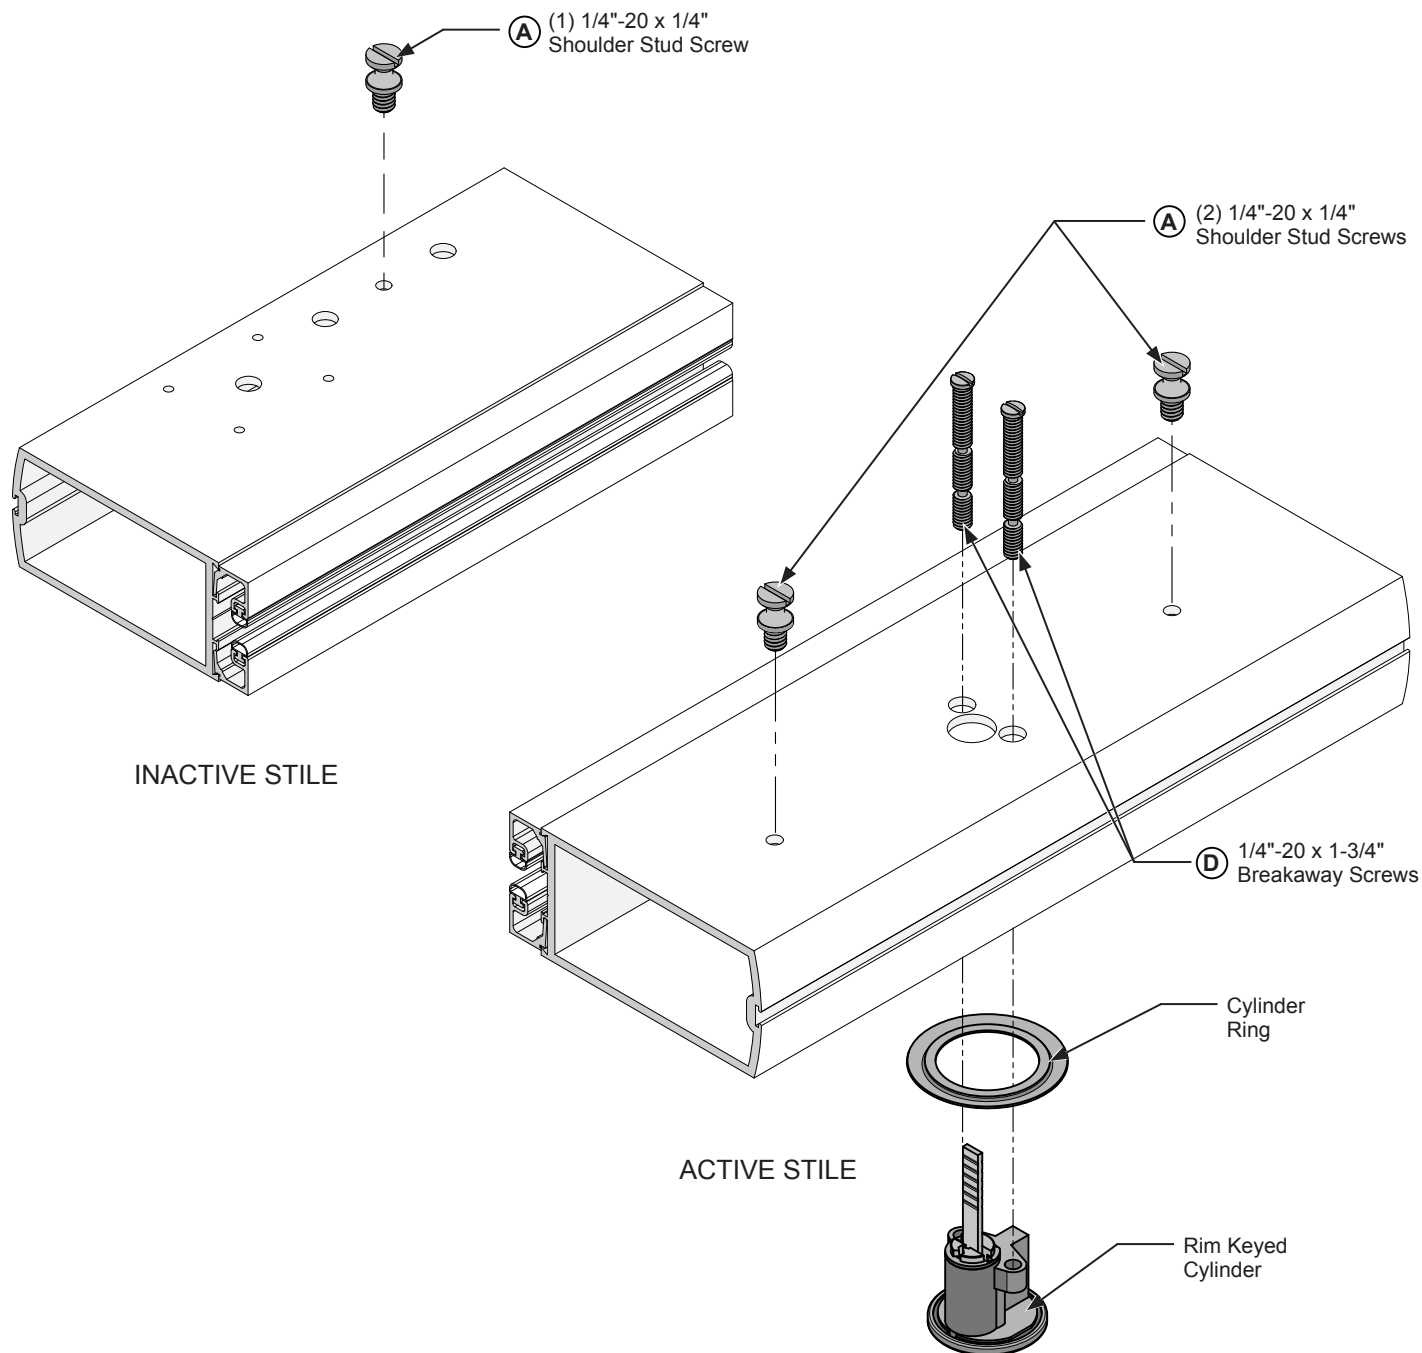

FIG. 8
1. Insert the rim keyed cylinder assembly into the active stile and fasten with (D) (2) 1/4"-20 x 1-3/4" breakaway screws (Fig. 8).
2. Attach the (A) (2) 1/4"-20 x 1/4" shoulder stud screws to the active stile. (Fig. 8)
3. Attach (A) (1) 1/4"-20 x 1/4" shoulder stud screw on the inactive stile. (Fig. 8)